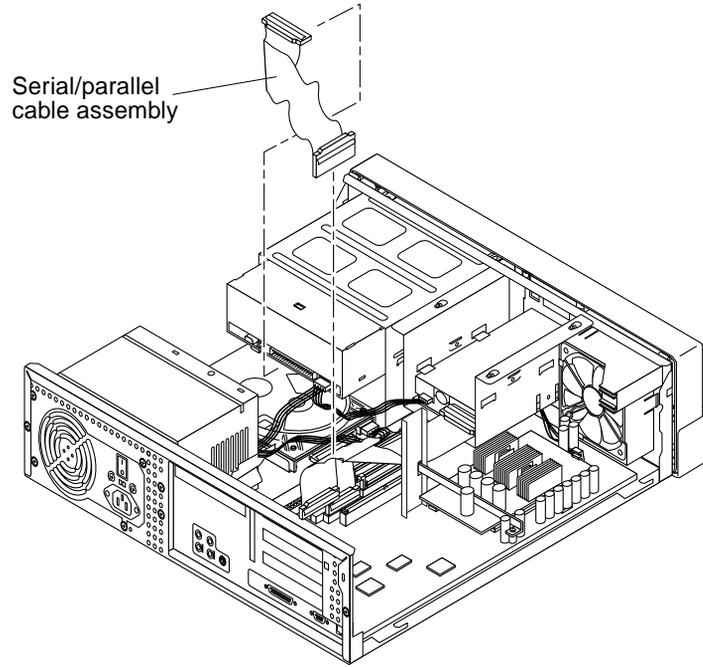
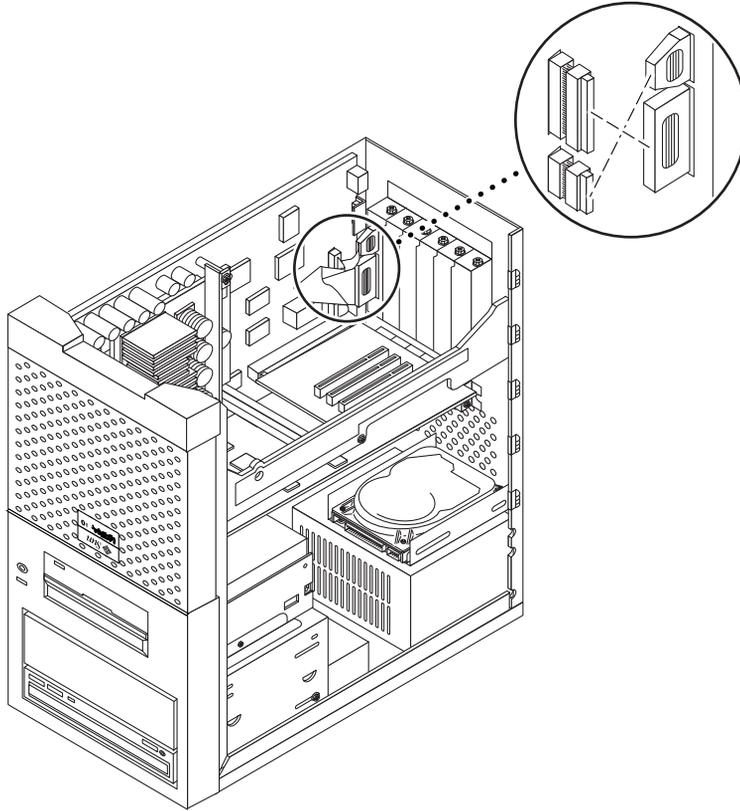

FIGURE 8-7 Removing and Replacing the Serial/Parallel Cable (Ultra 5)
FIGURE 8-8 Removing and Replacing the Serial/Parallel Cable (Ultra 10)
4. Remove the serial/parallel cable assembly as follows (FIGURE 8-7 or FIGURE 8-8):
1. **Replace the serial/parallel cable assembly as follows (FIGURE 8-7 or FIGURE 8-8):**